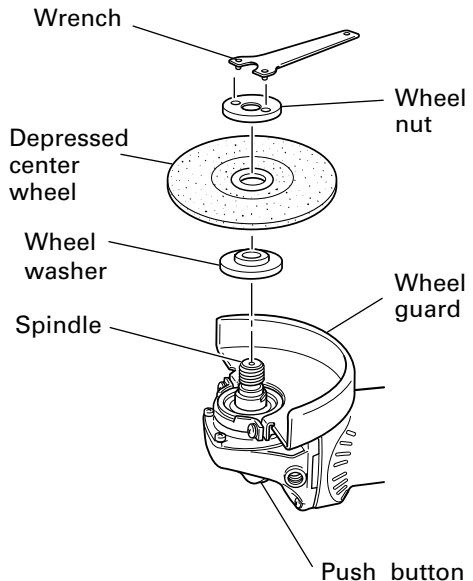

Fig. 5
Make sure that the push button is disengaged by pushing push button two or three times before turning on the grinder. (Fig. 5)
- (1) Turn the disc grinder upsidedown so that the spindle is facing upward.
- (2) Align the oval-shaped indentation of the wheel washer with the notched part of the spindle, then attach them.
- (3) Fit the protuberance of the depressed center wheel onto the wheel washer.
- (4) Screw the wheel nut onto the spindle.
- (5) While pushing the push button with one hand, lock the spindle by turning the depressed center wheel slowly with the other hand. Tighten the wheel nut by using the supplied wrench as shown in Fig. 5.